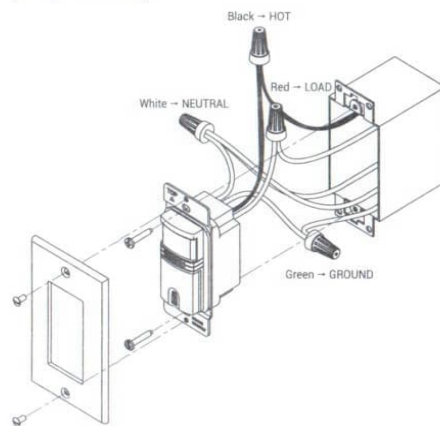

Figure 4: Sensor orientation, wire connections, and wall box assembly
2. Cap the wires securely using the wire nuts provided (see figures 4 and 5).